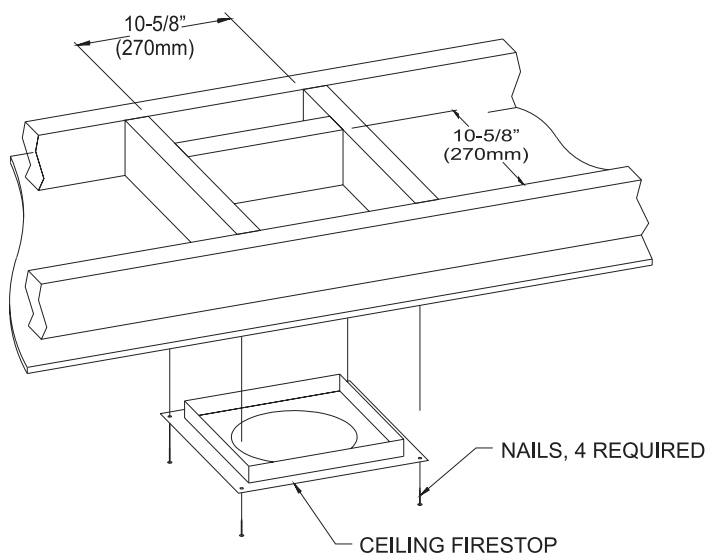
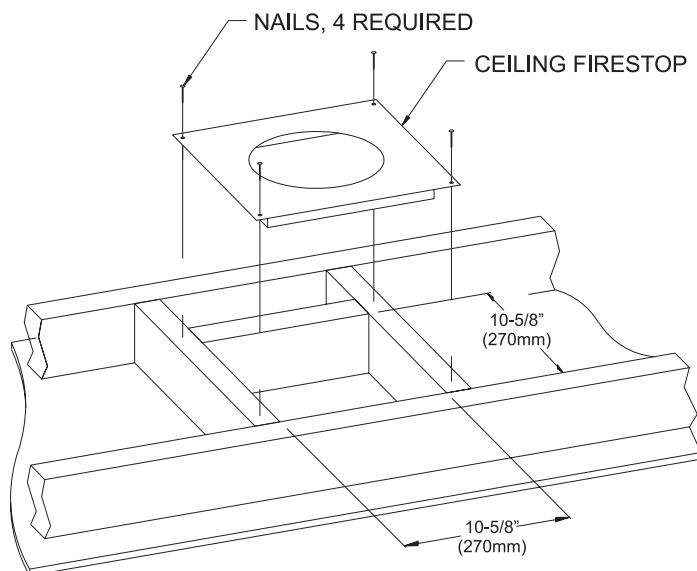

Figure 52
Figure 53
**See Figure 52.** If the area above the ceiling is an attic, position and secure the firestop on top of the previously framed hole. **See Figure 53.**